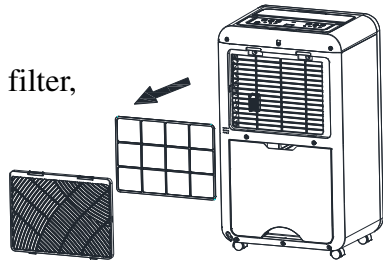

Fig.4
1.dust filter cleaning: remove grid, then take off dust filter from the back of machine ( fig.4 )